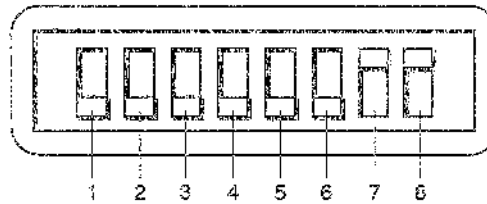

Figure 4: Rear-Panel Switches
- 16. Rear panel switches (Figure 4)